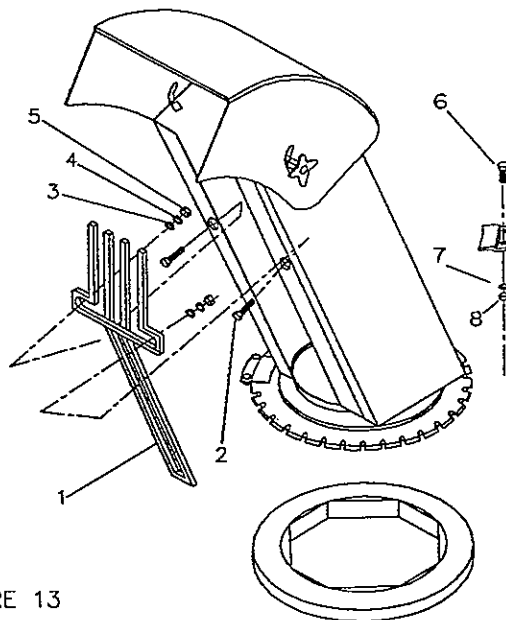

FIGURE 13
- h) Install hand guard (fig.13, item 1) on chute with the top portion inside the chute and the bottom section outside the chute base ring. Place two 1/4" x 3/4" bolts (fig.13, item 2) with the head on the outside of the chute, through the chute, then through the hand guard, and secure with flatwasher, lockwasher and nut (fig.13, items 3-4-5) on each bolt. Torque to 9-11 lbs/ft.